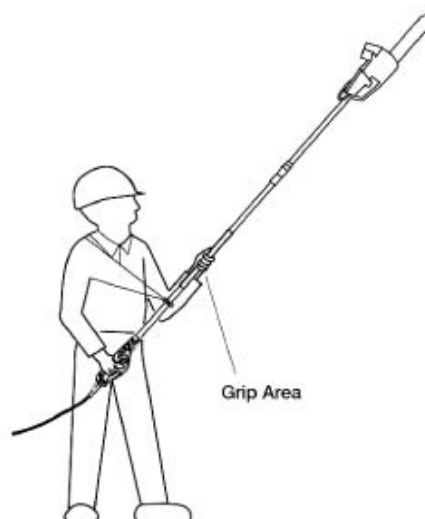

Figure 8
3. Use both hands to grip pole saw. Use designated grip areas and strap when operating pole saw. **(See Figure 8)** Use firm grip. Thumbs and fingers must wrap around pole saw handle and pole.